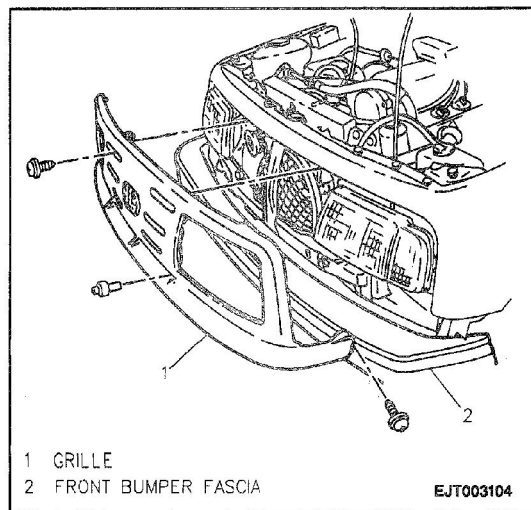

Figure 2—Grille
3. Two plastic retaining clips and grille from vehicle (Figure 2).
- 5. Grille to vehicle; secure with two plastic retaining clips (Figure 2).
1. Grille to vehicle; secure with two plastic retaining clips (Figure 2).
2. Grille to vehicle; secure with two plastic retaining clips (Figure 2).